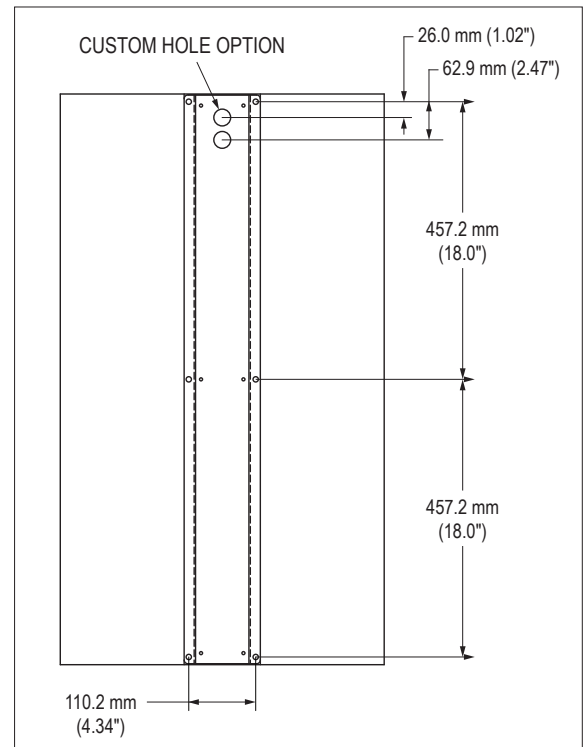

FIGURE 3 – REAR VIEW WITH OPTIONAL WB-ENCL-XXX WALL MOUNTING BRACKET
- c. When mounting to a wall (WITH optional WB-ENCL-xxx bracket): First mount the bracket to the wall using the hole pattern shown in Figure 3. Then mount the enclosure to the bracket using the provided six 1/4-20 fasteners. Finally, route power and signal cables through the cable entry into the enclosure.